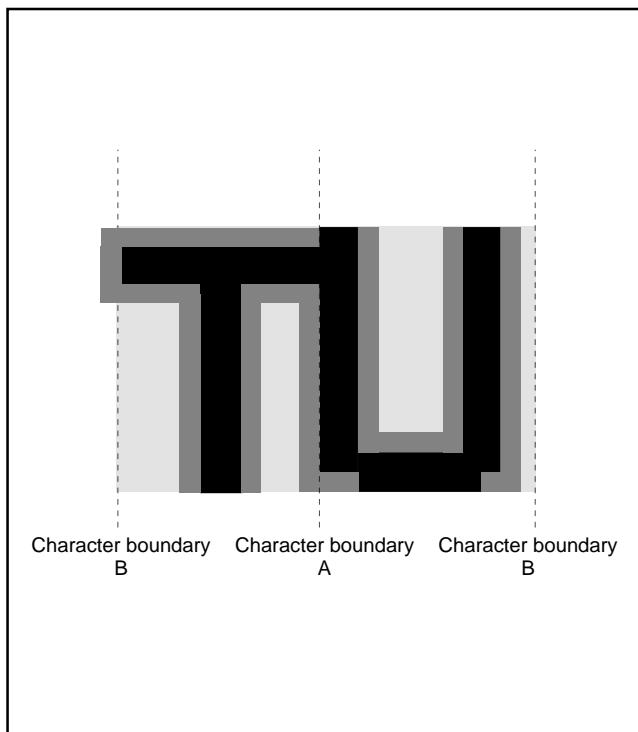

Fig. 76. Border priority
- 3 :** When the border dot overlaps on the next character font, the character font has priority (refer to Figure 76 A). When the border dot overlaps on the next character background, the border has priority (refer to Figure 76 B).